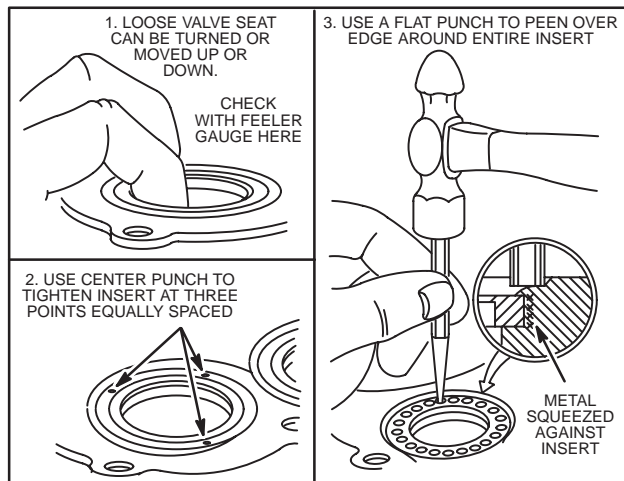

Fig. 526 – PEENING VALVE SEAT
**NOTE:** Aluminum alloy cylinder models. Use the old insert as a spacer between the driver and the new insert. Drive new insert until it bottoms. Top of insert will be slightly below cylinder head gasket surface. Using a flat punch, peen around the insert as shown in Fig. 526.